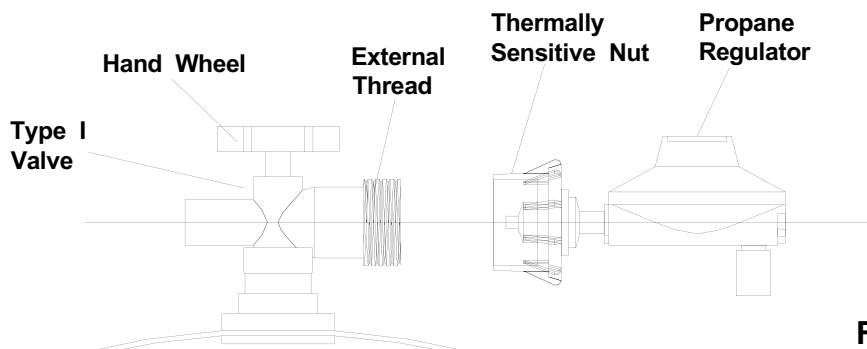

Fig. 7
**⚠ WARNING:** The Type I connective coupling (see Fig. 7) supplied with your grill must not be replaced with a different type of grill/tank connection system. Removal will result in loss of warranty, gas leakage, fire and severe bodily harm.